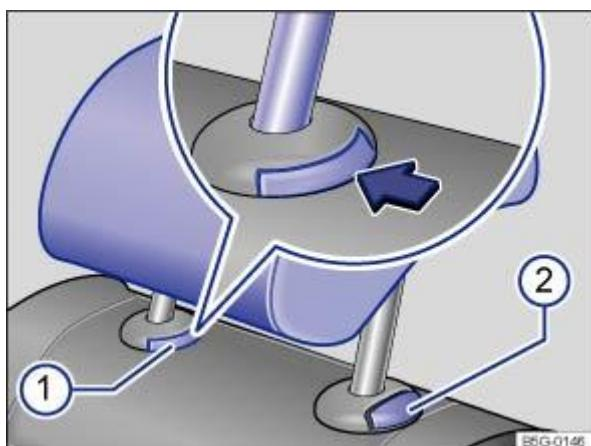

Fig. 75 Rear head restraint: removing.
Press button ⇒ Fig. 75(1) on the head restraint guide.
Press and hold the button ⇒ Fig. 75(2) and push down the head restraint.